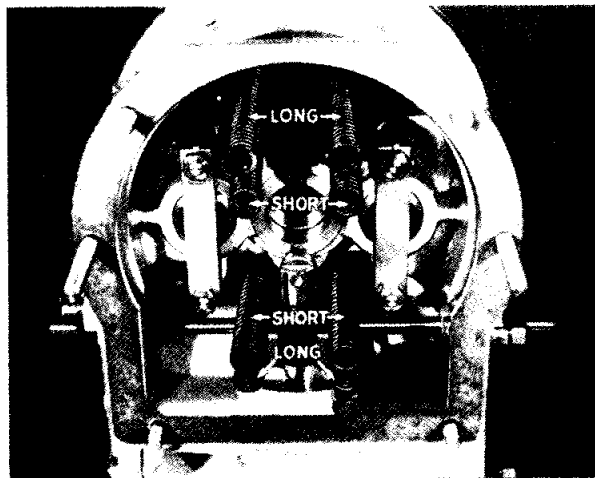

Fig. 32 Showing correct location of four springs.
- (b) Ensure that the eight springs in the overdrive unit are correctly located, as shown in Fig. 32, that is, the long springs on the outside and the short springs nearer the centre.